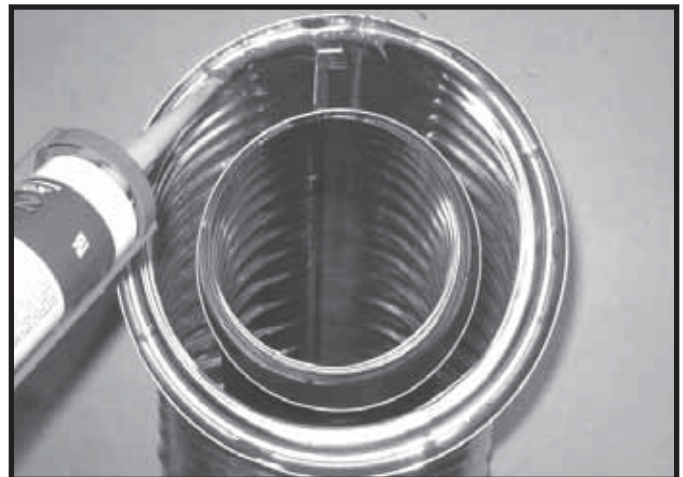

Figure 10.1 High Temperature Silicone Sealant
- Apply a bead of silicone sealant (300°F minimum continuous exposure rating) inside the female outer pipe joint prior to joining sections. See Figure 10.1.